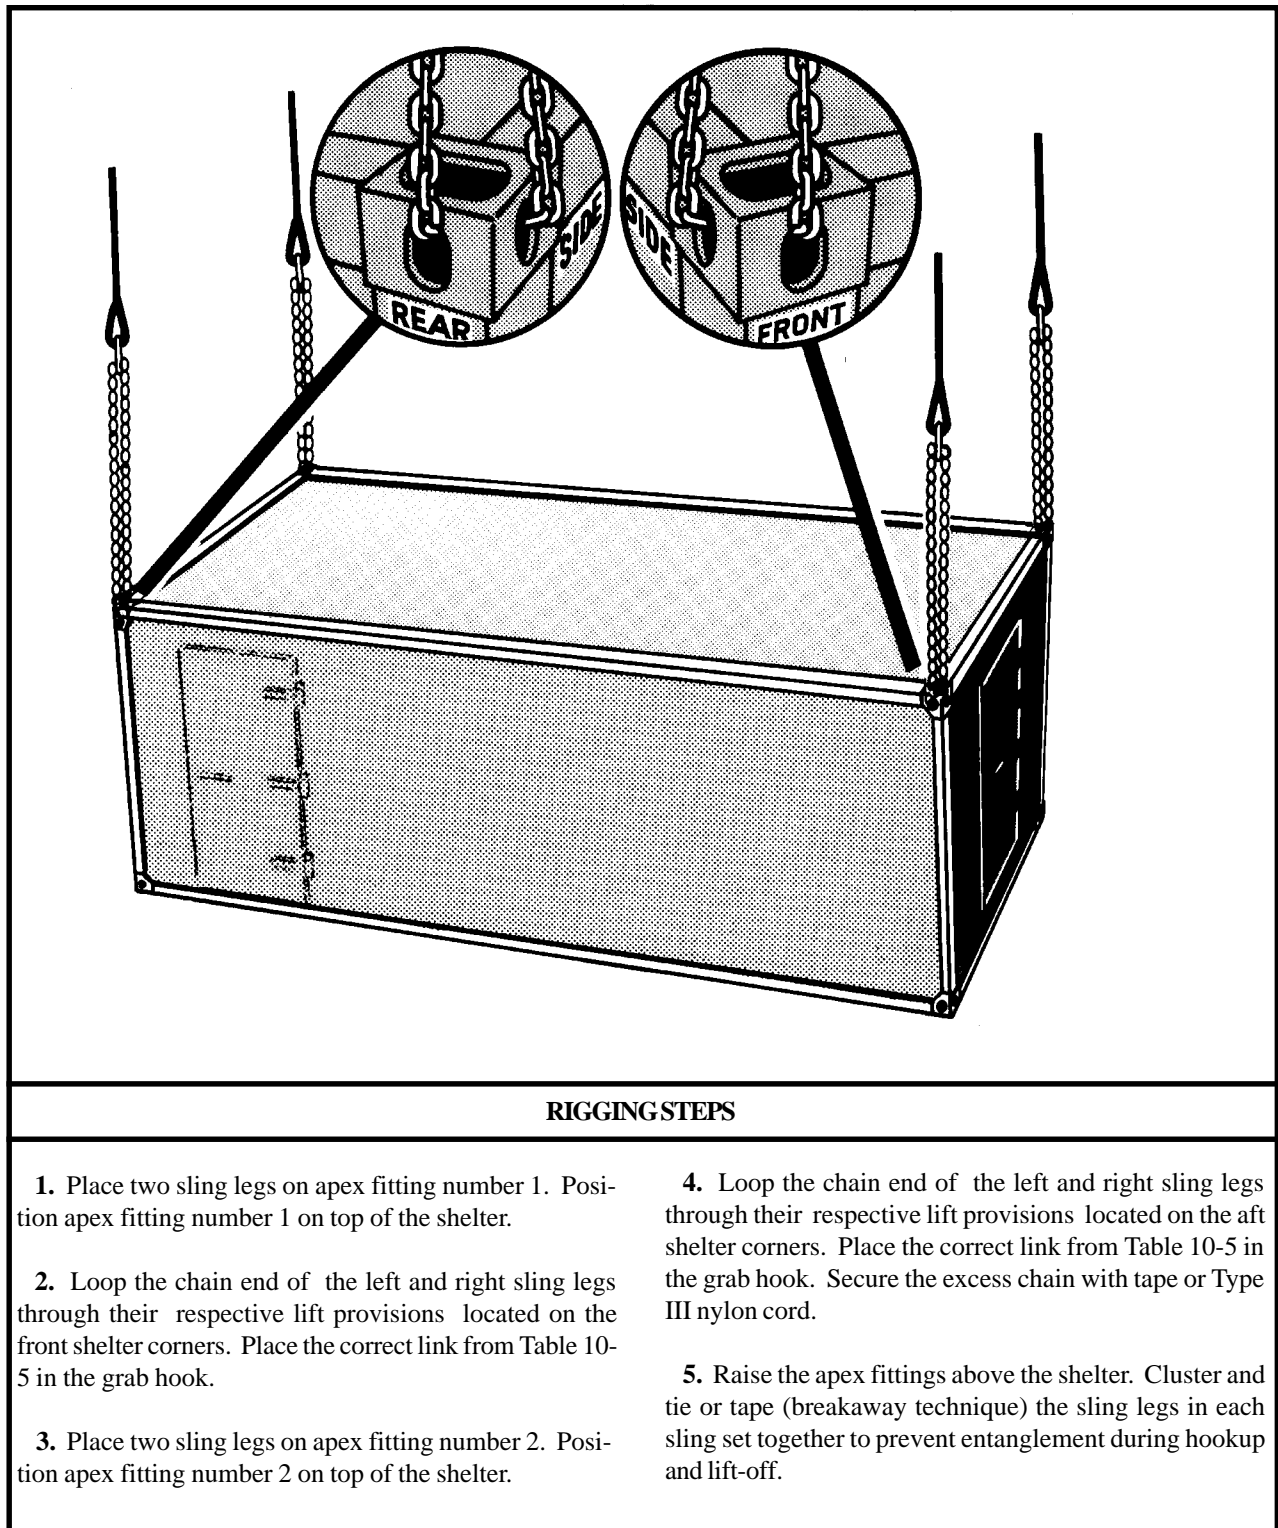

Figure 10-5. 8-x 8-x 20-Foot Shelters
(2) **Rigging.** Rig the load according to the steps in Figure 10-5.